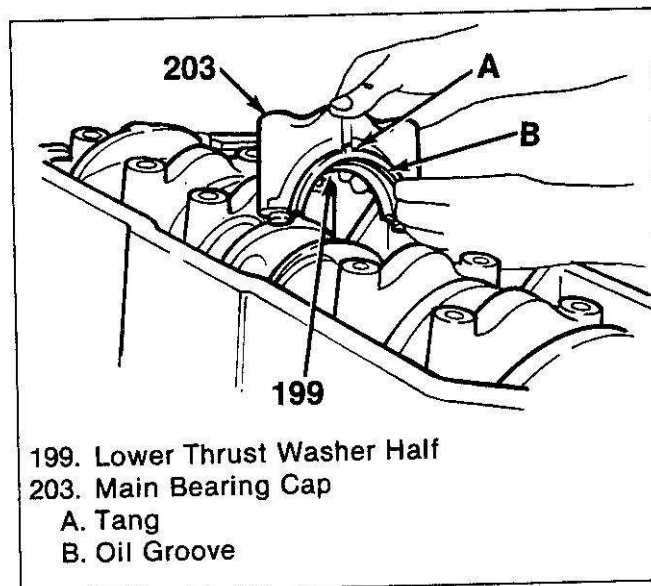

Figure 119. Installing the Crankshaft Lower Thrust Bearings
- The crankshaft (198) and upper main bearing inserts (206) should already be installed, from the Main Bearing Selection procedure.
- Apply engine oil to the lower main bearing inserts (201) and lower thrust washer halves (199).
1. Main bearing caps (203) with the selected lower main bearing inserts (201).
- Install the lower thrust washer halves (199) along with the #4 main bearing cap (figure 119).